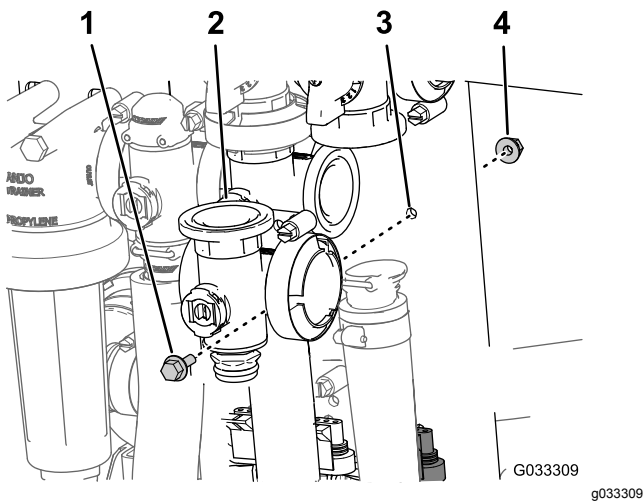

Figure 72
- Remove the flanged-head bolt and flanged locknut that secures the master-section valve to the valve mount and remove the valve manifold from the machine (Figure 72).